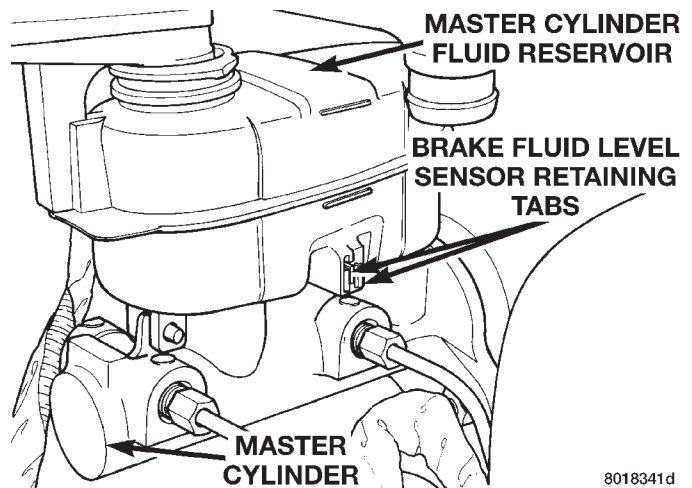

Fig. 179 Master Cylinder Brake Fluid Level Sensor
(2) Using fingers, compress the retaining tabs on the end of brake fluid level switch (Fig. 179).
(3) With retaining tabs compressed, (Fig. 179) grasp opposite end of brake fluid level switch and pull it out of master cylinder brake fluid reservoir.
(4) Insert the replacement brake fluid level sensor into brake fluid reservoir. Be sure sensor is pushed in until retaining tabs (Fig. 179) lock it to the brake fluid reservoir.